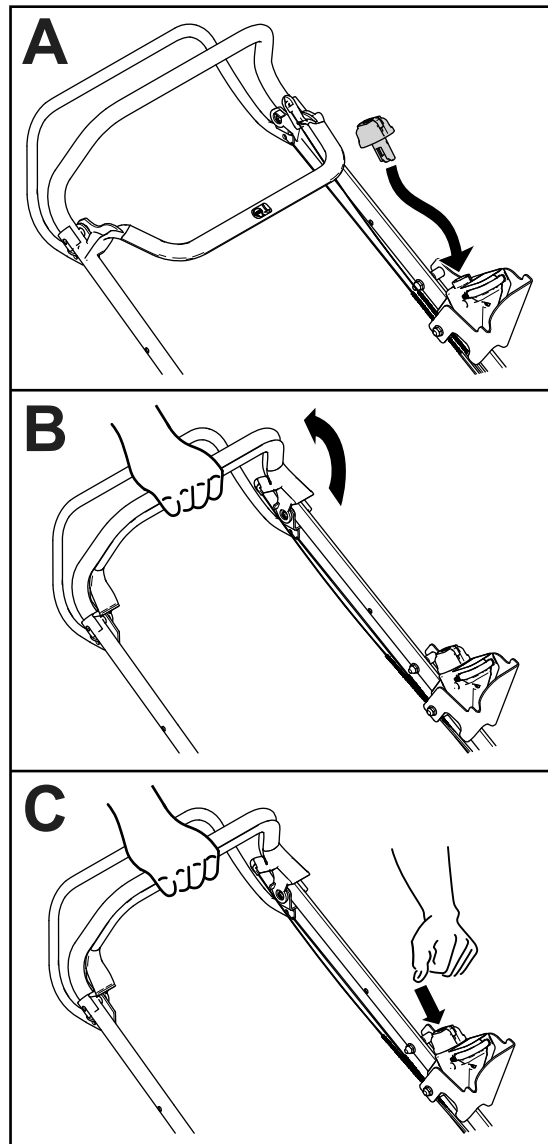

Figure 19
- Insert the electric-start button refer to [Locating the Electric-Start Button \(page 15\)] into the electric-start switch (A of Figure 19).
- Squeeze the blade-control bar and hold it to the handle (B of Figure 19).
- Push the electric-start button until the machine starts and the blade starts spinning (C of Figure 19).